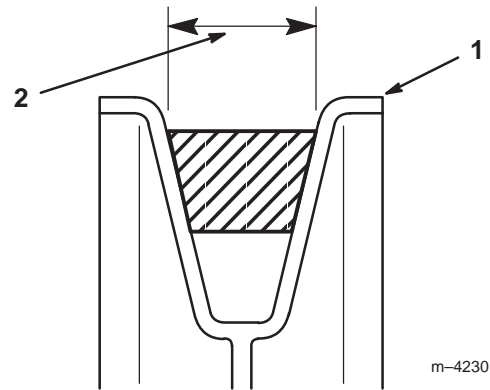

Figure 7
4. Make certain that the wide side of the PTO drive belt is toward the outside diameter of **all the pulleys** (Fig. 7).